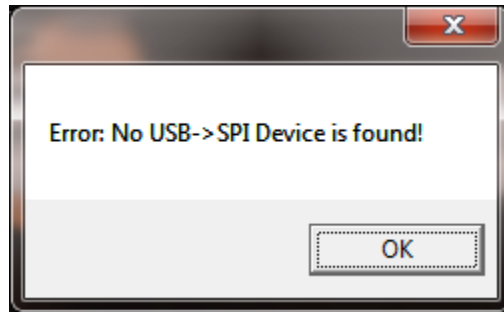

Figure 30: Error message dialog
7. If an error message dialog shows up as shown below in Figure 30, press “Source FW Bin” button to load firmware binary file of the source firmware again. Then press “Burning Firmware Bin Files”. Repeat this step until it works.